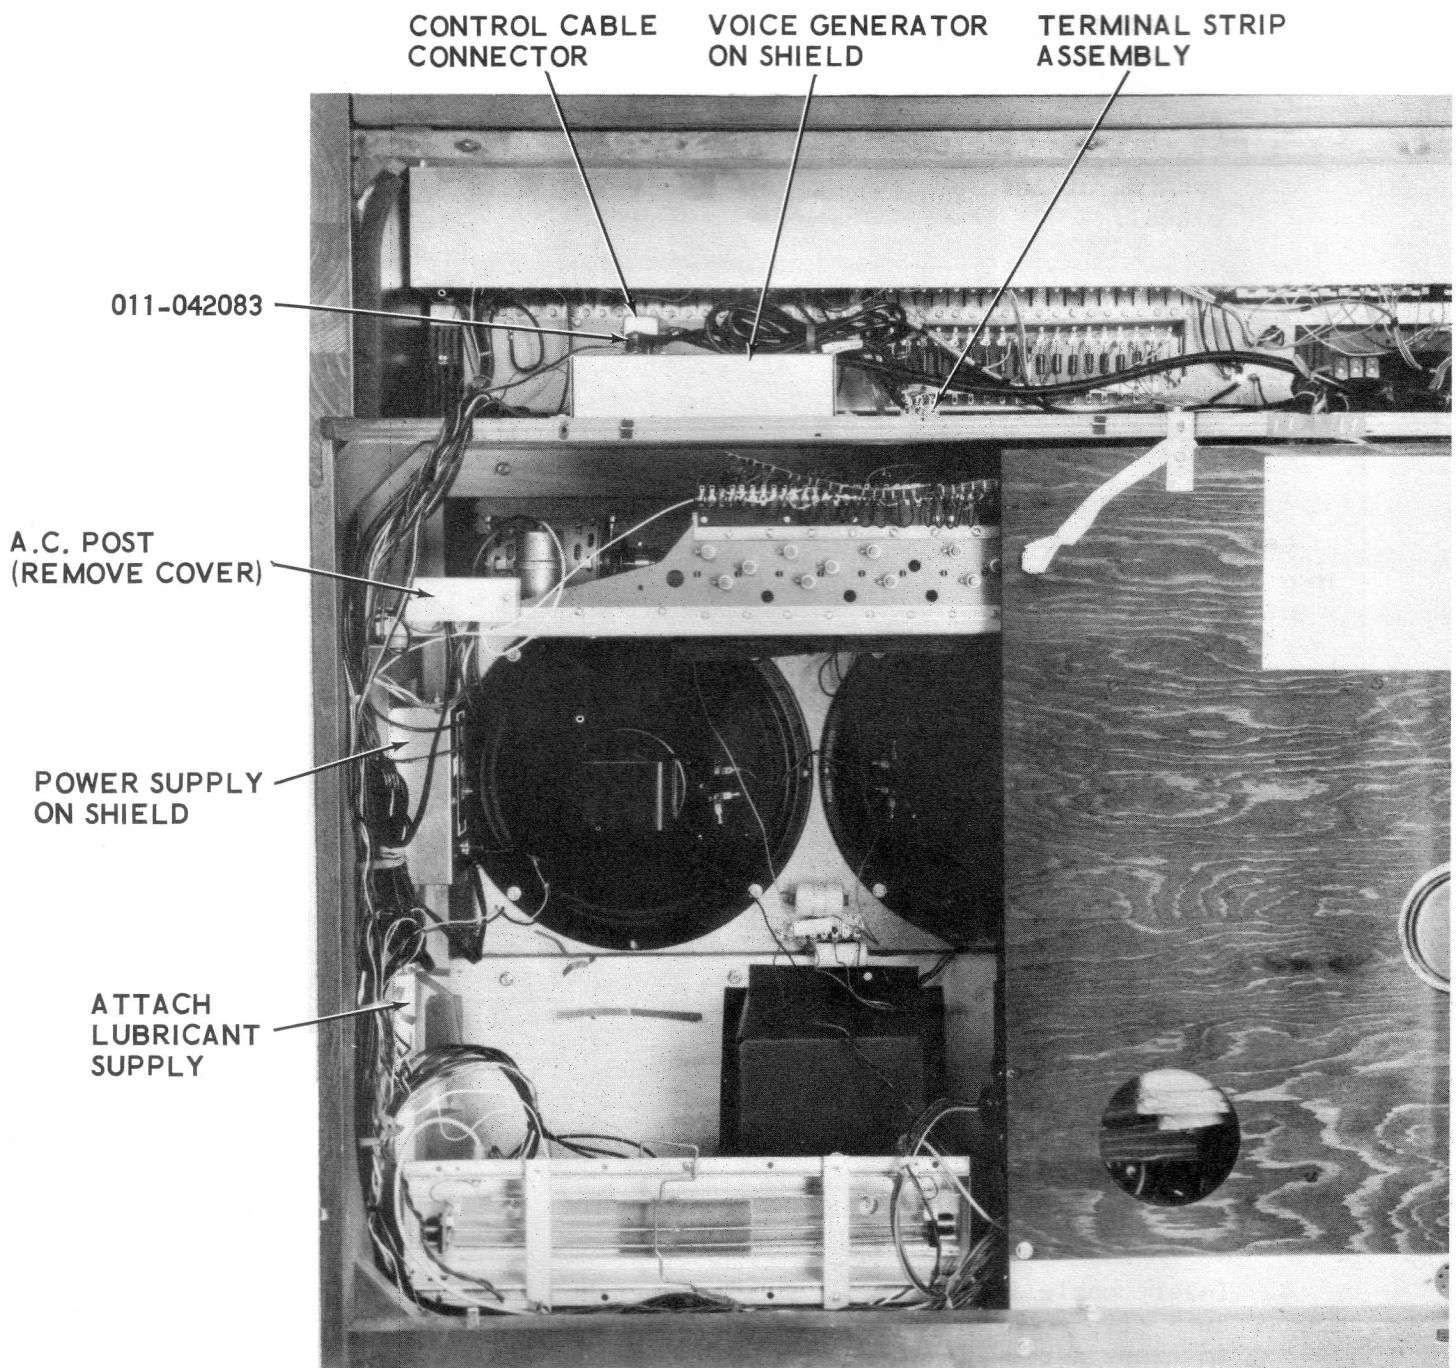
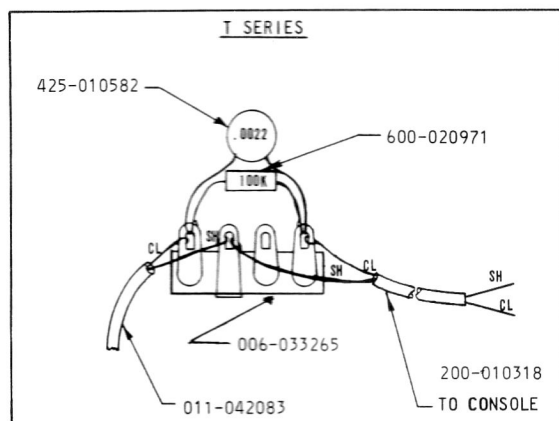
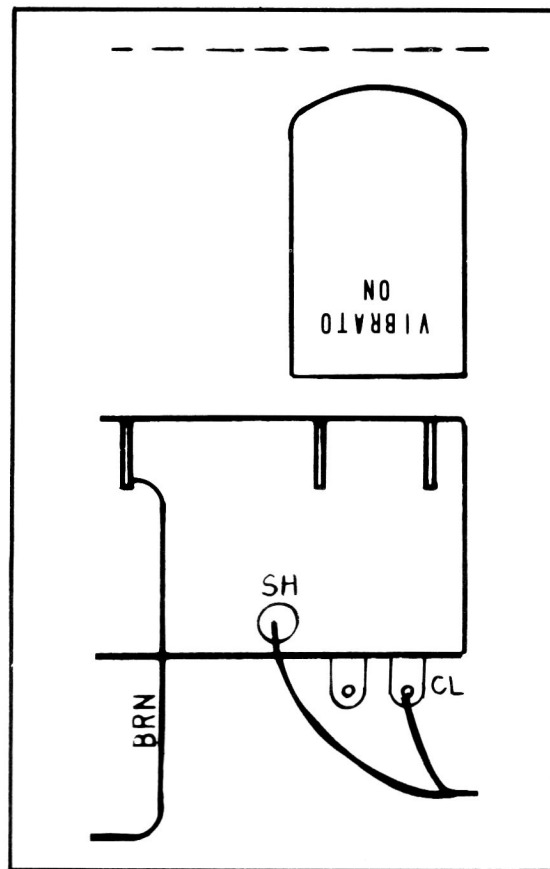

FIGURE 1-3
FIGURE 1-4.
FIGURE 1-5.
The Power Supply is to be installed in the position indicated in Figure 1-3.
- a. Remove tube of oil from left end wall. Remove cable ties holding tube. Relocate ties and tube as shown in Figure 1-3.
- a. Place voice generator shield, 010-042082, over pilot holes on upper shelf of organ. Position as shown in Figure 1-3.
- 1-6. TERMINAL STRIP ASSEMBLY.**— Assemble terminal strip assembly as shown in Figure 1-4, using .0022 uf capacitor and 100K resistor. Fasten terminal strip assembly to shelf about two inches to the right of voice generator, as shown in Figure 1-3. Use one screw, 884-050734.
- d. Solder free ends of wire and plug assembly, 011-042083, to terminal strip assembly, as shown in Figure 1-4.
- e. Solder free ends of coaxial cable 200-010318, to terminal strip assembly, as shown in Figure 1-4 and tablet, as shown in Figure 1-5.